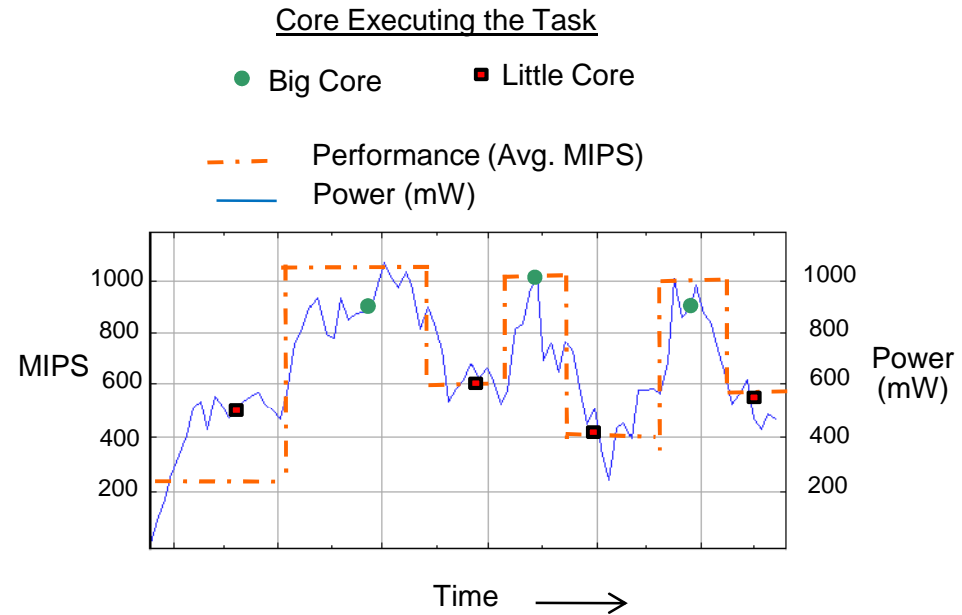

Fig 2a : Single task migrating across cores over time
- Code compatibility (due to uniform ISA) ensures easy dynamic task migration (Fig 2a)